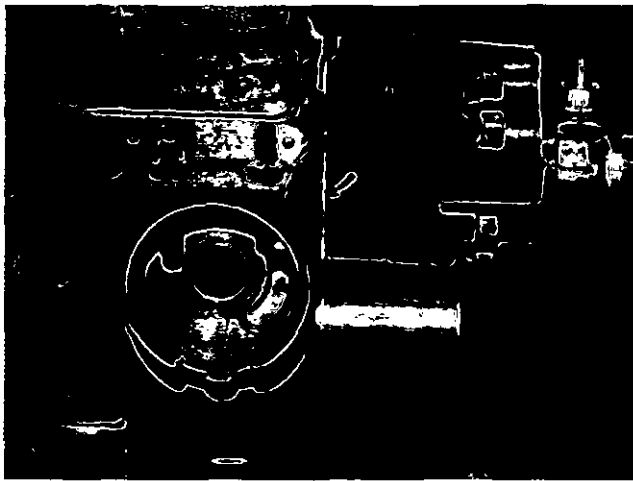

Fig. 10-72, (F5166). ST-844 gear pump block plate.
2. Install a Tool No. ST-844 Gear Pump Block Plate, with a gasket on each side, between the gear pump and the fuel pump housing, Fig. 10-72.